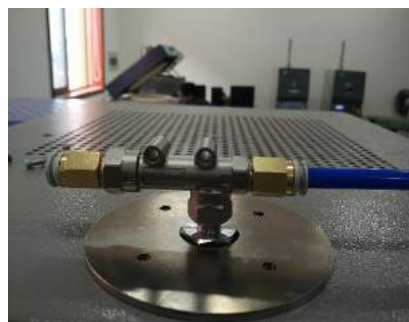

Figure 6
5. Install the purge device with connecting gas pipe as showed in Figure 6